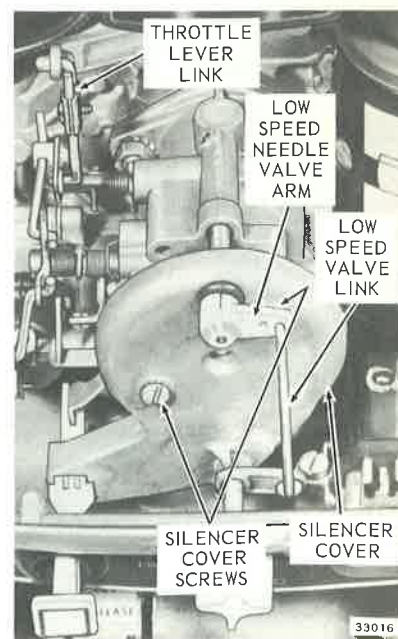

Figure 3-4b. Carburetor
- Remove low-speed valve arm from needle valve. See Figure 3-4b.
- Remove two screws attaching silencer cover to carburetor body. See Figure 3-4b. Remove silencer cover.
- Disconnect cam follower-to-throttle lever link. See Figure 3-4b.